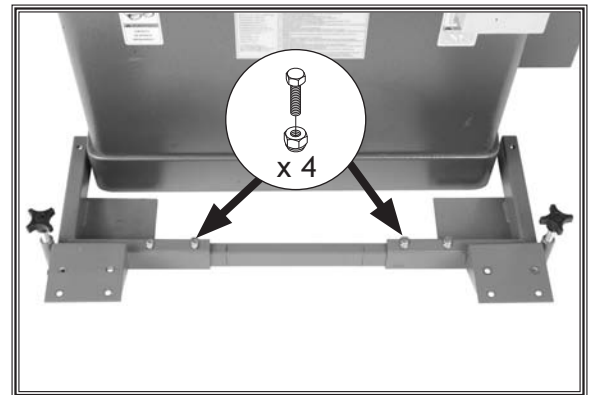

Figure 14. Rail secured to brackets.
5. Secure the rail to the corner brackets with (4) M8-1.25 x 25 hex bolts, and 8mm lock nuts, as shown in **Figure 14**.